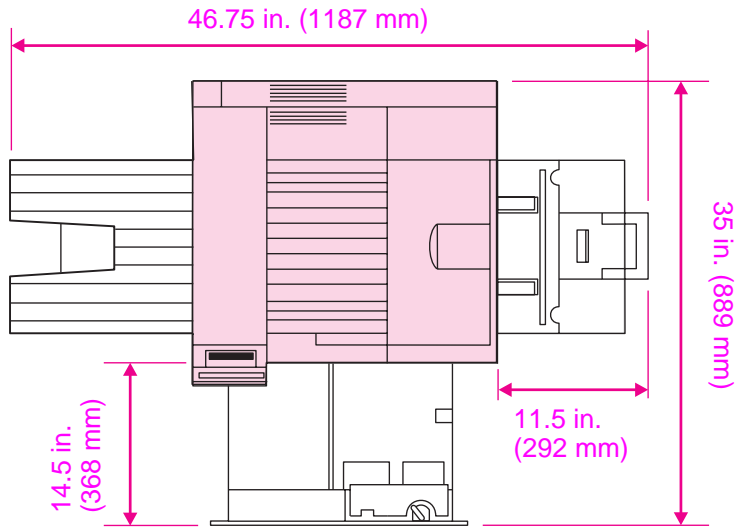

Figure 2-1 Printer Space Requirements (Top view)
- Install the printer with enough space around the printer for proper access and ventilation (see figure 2-1 on page 45).